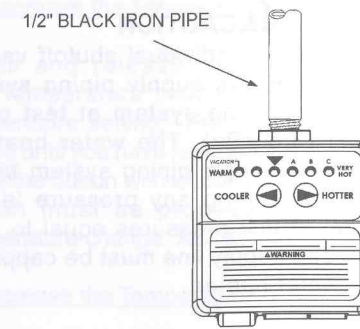

FIGURE 6.
9. Thread a straight section of 1/2 inch diameter pipe into Intelli-vent™ Thermostat Control, see Figure 6.